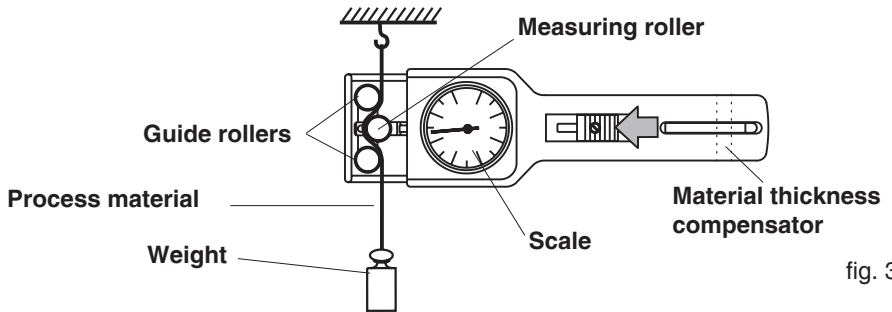

fig. 3.4
- Suspend a known weight that corresponds to the tension to be measured (pay attention to the correct unit of measure) from the Process material, vertically, as shown in fig. 3.4. (Always use a fresh portion of the material to be measured).